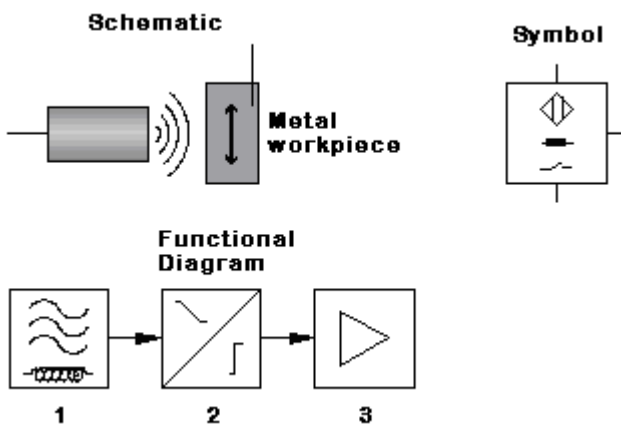

Figure 4.3: Basic representation, function and symbol for an inductive proximity sensor
Inductive proximity sensors consist of an electrical resonant circuit (1), a flip-flop (2) and an amplifier (3) (Figure 4.3). When voltage is applied to the connections, the resonant circuit generates a (high-frequency) magnetic alternating field that escapes from the front side of the sensor.